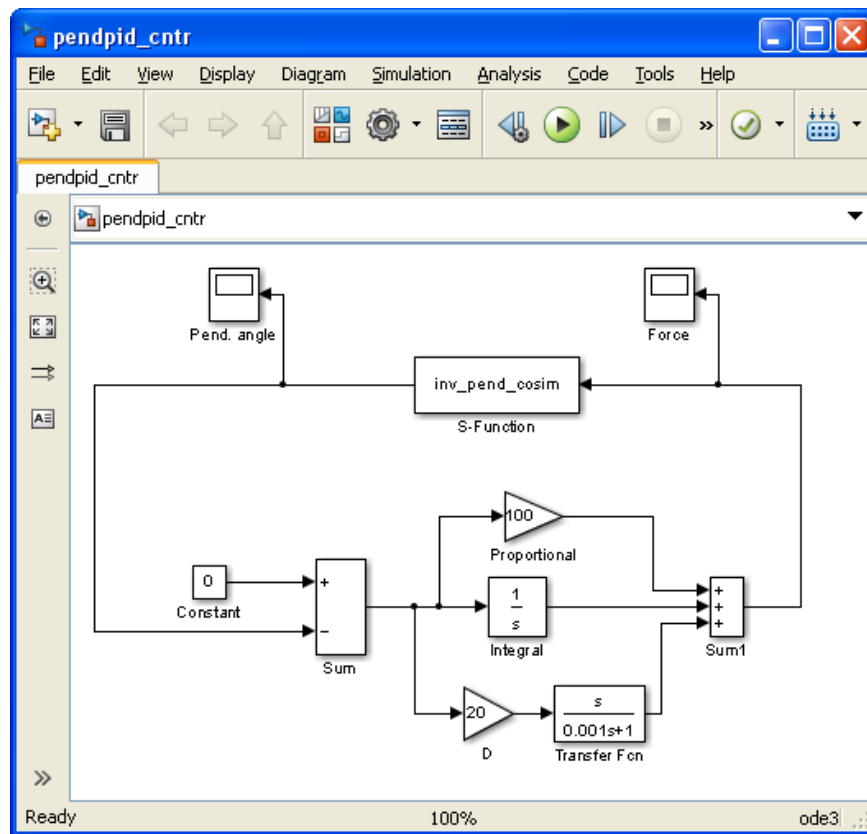

Figure 4.1. Matlab/Simulink model of the control scheme for inverted pendulum with mechanical part given as S-function
The Matlab/Simulink model of the control scheme for the model of the inverted pendulum shown in the Figure 4.1 is very similar to the one considered above in Figure 3.1 but have one significant difference – includes an S-Function. This component can be found in **User-Defined Functions** Simulink library. By default the name of the *S Function* is **System**.
Ready-to-use Matlab/Simulink model you can find in the file {UM_Data}\SAMPLES\cosimulation\inv_pend_cosim\pendpid_cntr, see Figure 4.1. We will come back to Matlab/Simulink model later and now let us consider basic features of export of UM model for the posterior usage under Matlab/Simulink environment.
3. Load **pendpid_cntr** with the model depicted in Figure 4.1.